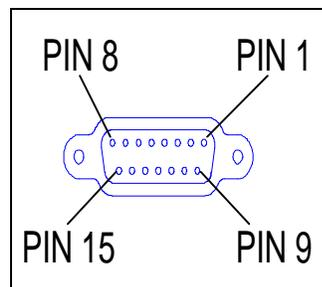

Figure 7-9. “ALARM TRANSPORT” DB15 Pin Numbering
- If required, install alarm relay wiring to female DB15 “ALARM TRANSPORT” connector on redundant system controller front panel. Refer to Table 7-5 and Figure 7-9 for wiring details. Recommend use of 8-pair, tin-plated, PVC insulated, twisted pair, copper cable (24 gauge).